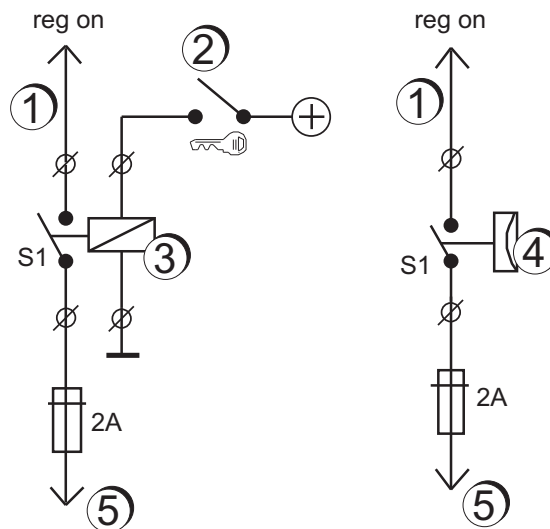

Figure 7: Connection of the ignition switch (left) and an independent (ungrounded) oil pressure switch with normally open contact (right)
- 5 See reference ⑤. The brown cable of the cable assembly must be connected to the [reg on] terminal of the Alpha Pro II regulator. Connect the other wire end through a switch ("S1") with normally open contacts to the positive (+) pole of the battery as indicated. You can use the ignition switch (figure 7) or preferably an independent (ungrounded) oil pressure switch (figure 8). Use a 2.5mm² cable. This cable must also be secured by a 2 Amp fuse. As the [reg on] terminal is also used for voltage measurement, this cable should not be shared with other loads.